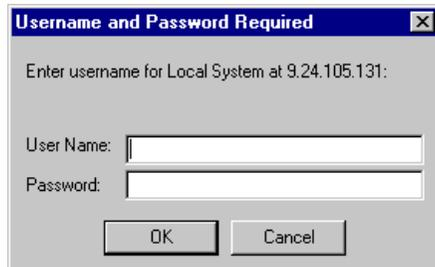

Figure 216. Enter your User ID and Password
2. After a connection is established you are prompted for a user ID and password as shown in Figure 216: